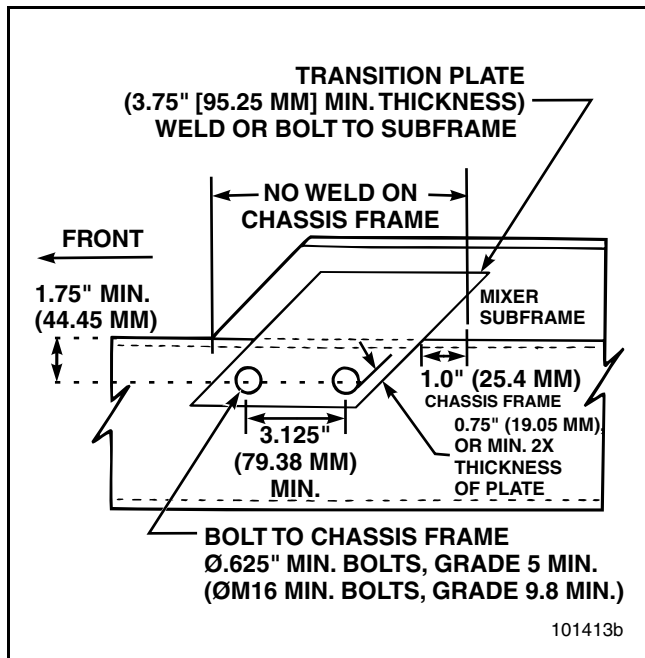

Figure 91 — Subframe Transition Plate
- The subframe to chassis weld should begin approximately 1 inch (25.4 mm) behind the transition plate. Refer to Figure 91.